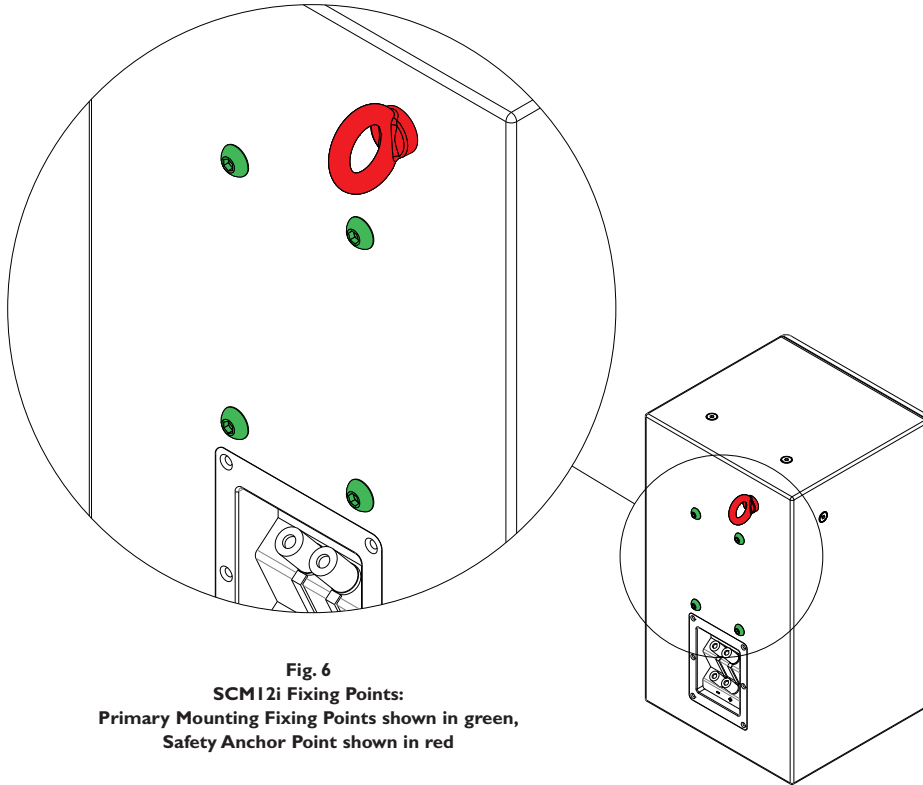

Fig. 6
- The SCMI2i is fitted with a safety anchor point, in the form of a single M8 eyebolt situated at the top rear corner as illustrated in **Fig.6**.